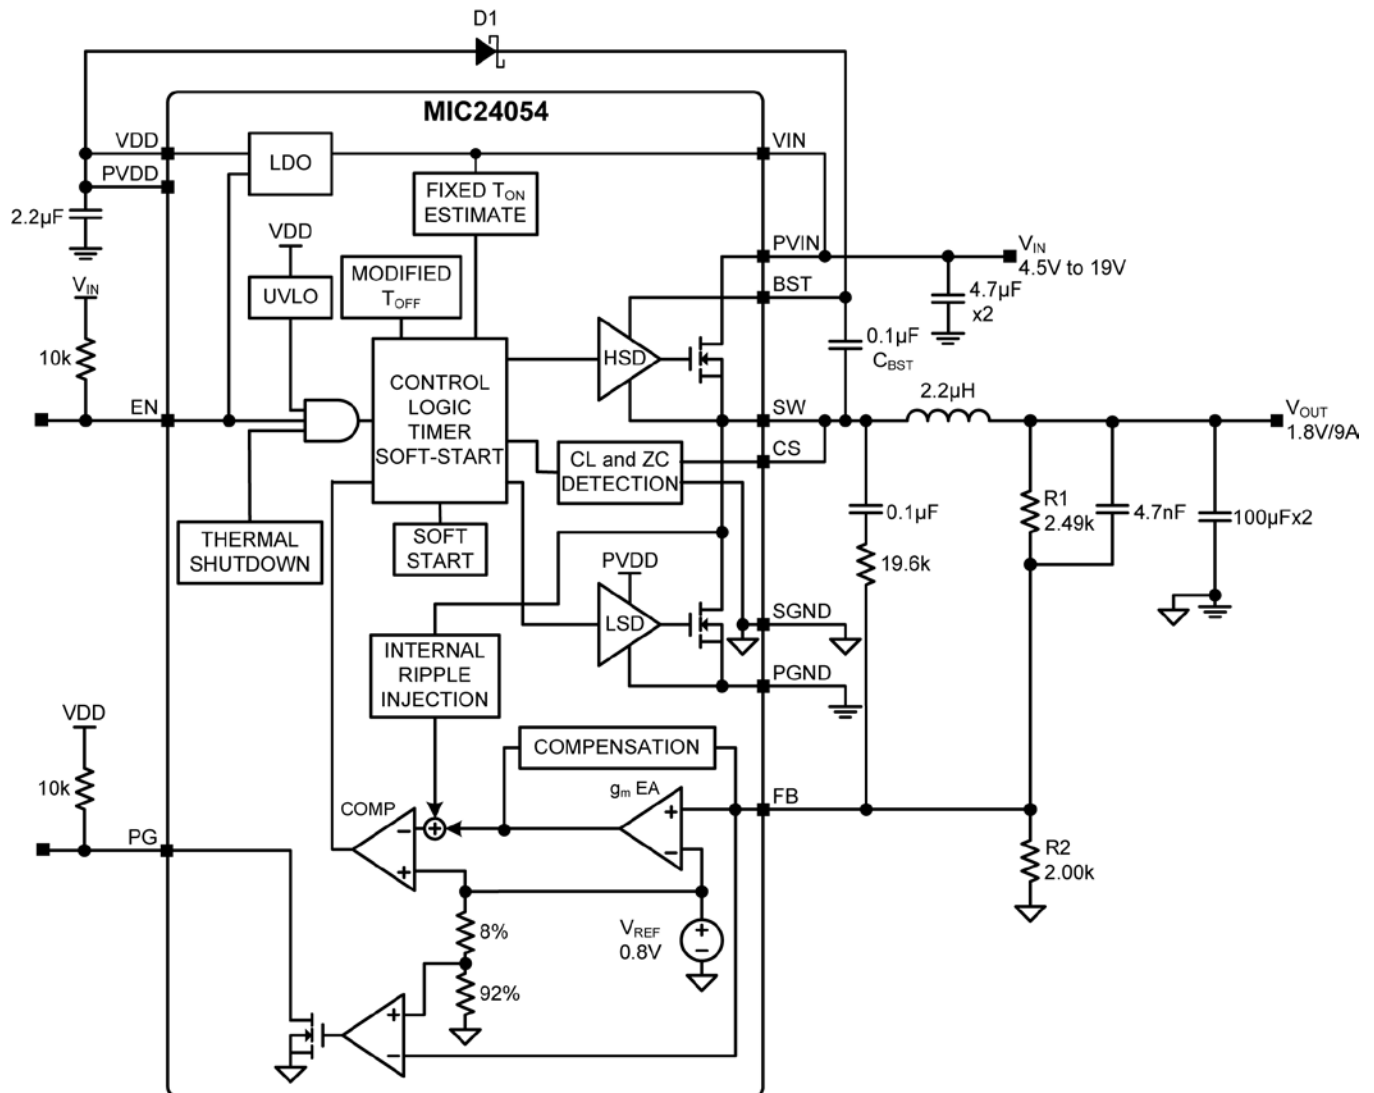

Figure 1. MIC24054 Block Diagram
The MIC24054 is able to operate in either continuous mode or discontinuous mode. The operating mode is determined by the output of the Zero Cross comparator (ZC) as shown in Figure 1.
The Block Diagram (Figure 1) shows a bootstrap circuit, consisting of D1 (a Schottky diode is recommended) and C_{BST} . This circuit supplies energy to the high-side drive circuit. Capacitor C_{BST} is charged, while the low-side MOSFET is on, and the voltage on the SW pin is approximately 0V. When the high-side MOSFET driver is turned on, energy from C_{BST} is used to turn the MOSFET on. As the high-side MOSFET turns on, the voltage on the SW pin increases to approximately V_{IN} . Diode D1 is reverse biased and C_{BST} floats high while continuing to keep the high-side MOSFET on. The bias current of the high-side driver is less than 10mA so a 0.1 μ F to 1 μ F is sufficient to hold the gate voltage with minimal droop for the power stroke (high-side switching) cycle, i.e. $\Delta BST = 10\text{mA} \times 1.67\mu\text{s} / 0.1\mu\text{F} = 167\text{mV}$. When the low-side MOSFET is turned back on, C_{BST} is recharged through D1. A small resistor R_G , which is in series with C_{BST} , can be used to slow down the turn-on time of the high-side N-channel MOSFET.